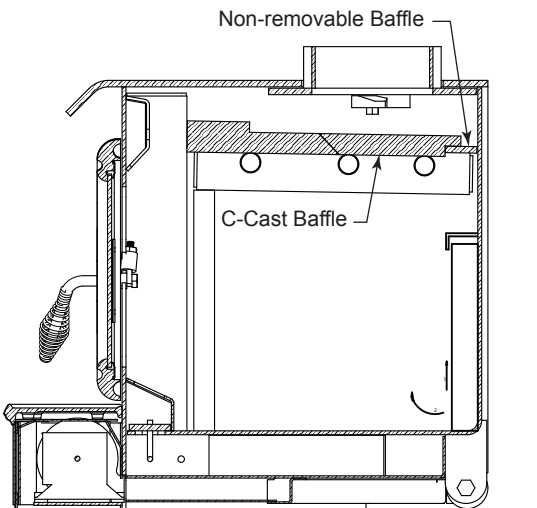

Figure 16
6. Replace the C-cast baffle and tubes, remembering to check each tube for the letter M, F or R to be sure you replace them in the correct location. After the tubes are in place check to see that the c-cast baffle is slid back against the steel non-removable baffle as shown in *Figure 16.* Replace the rear bricks.